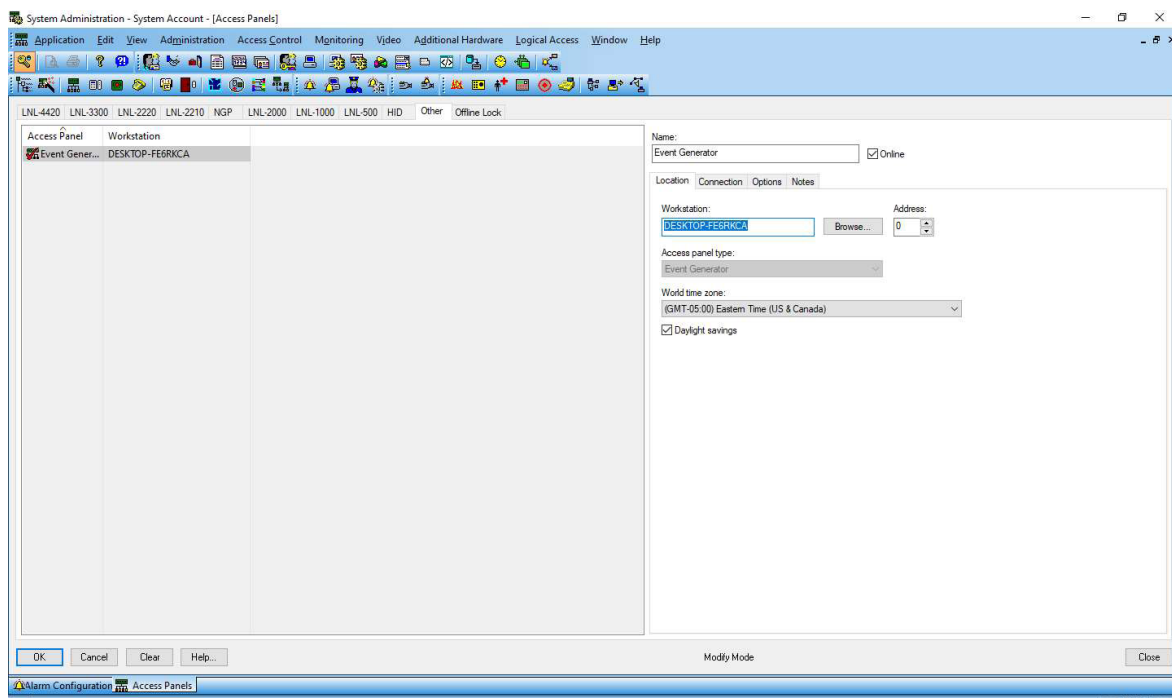

Figure 8
3. From the Access Control menu in OnGuard, select Access Panel and click the "Other" tab. See Figure 8.